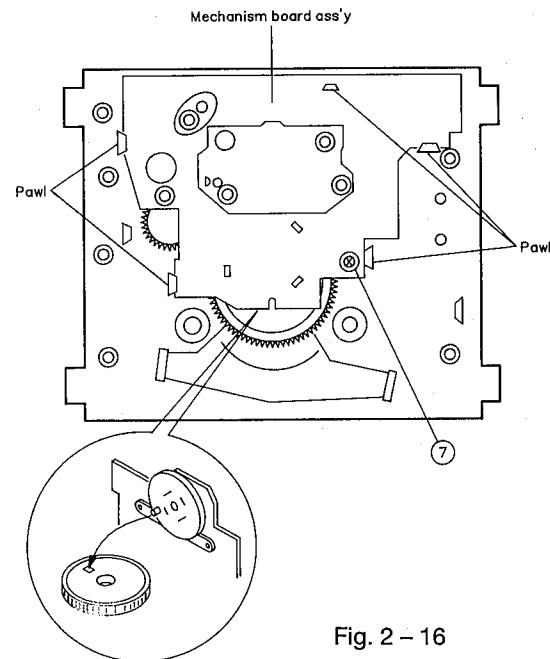

Fig. 2 – 16
### ◆ Control cam (Fig. 2 – 17, 2 – 18)
1. Release the control cam from two pawls. (Fig. 2 – 17)